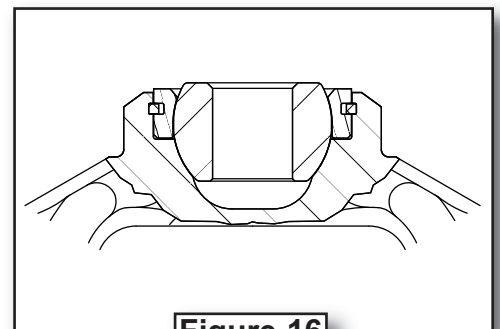

Figure 16
14. Wrap a shop cloth around the shaft to protect the splines. Clamp the shaft in the vise so the shaft yoke is up. The ball in the shaft yoke has a flat area around each end of the hole. The flat area is wider on one side of the ball (see *Figure 16*). Rotate the ball so the wider flat area is up.